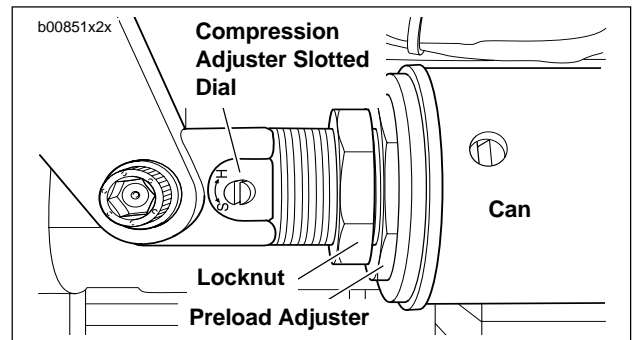

Figure 30. X1 Rear Shock Preload Adjustment
- b. See Figure 30. To decrease preload, move the can towards the front of the motorcycle. To increase preload, move the can towards the rear of the motorcycle.